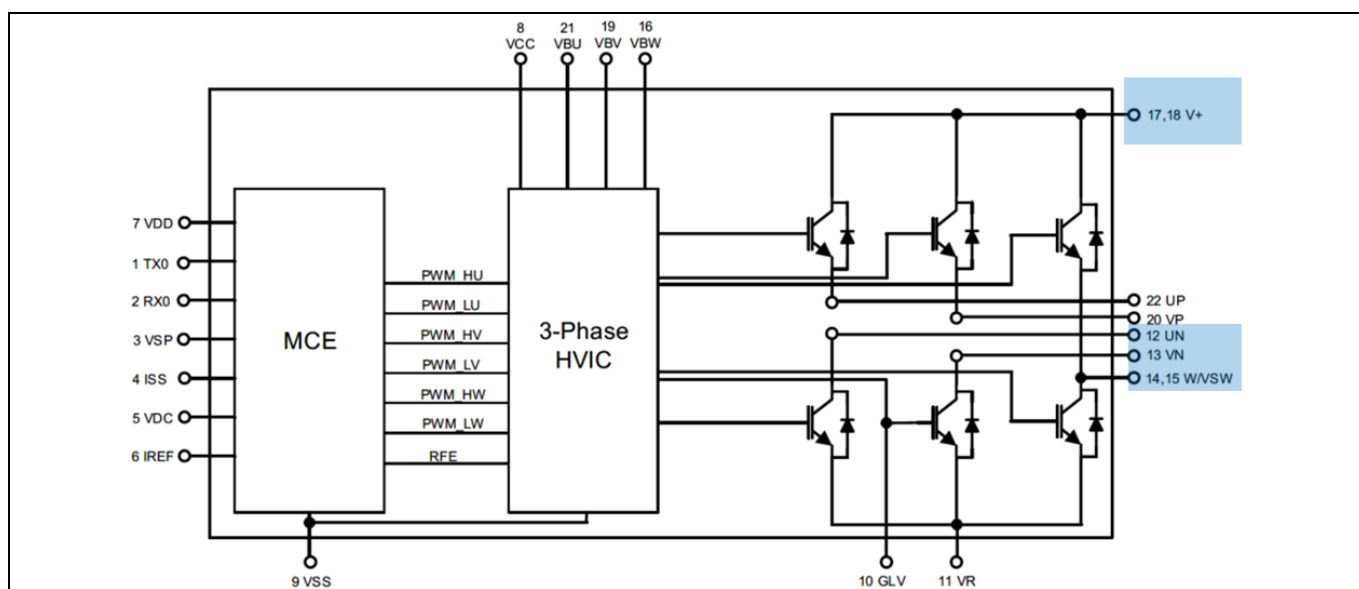
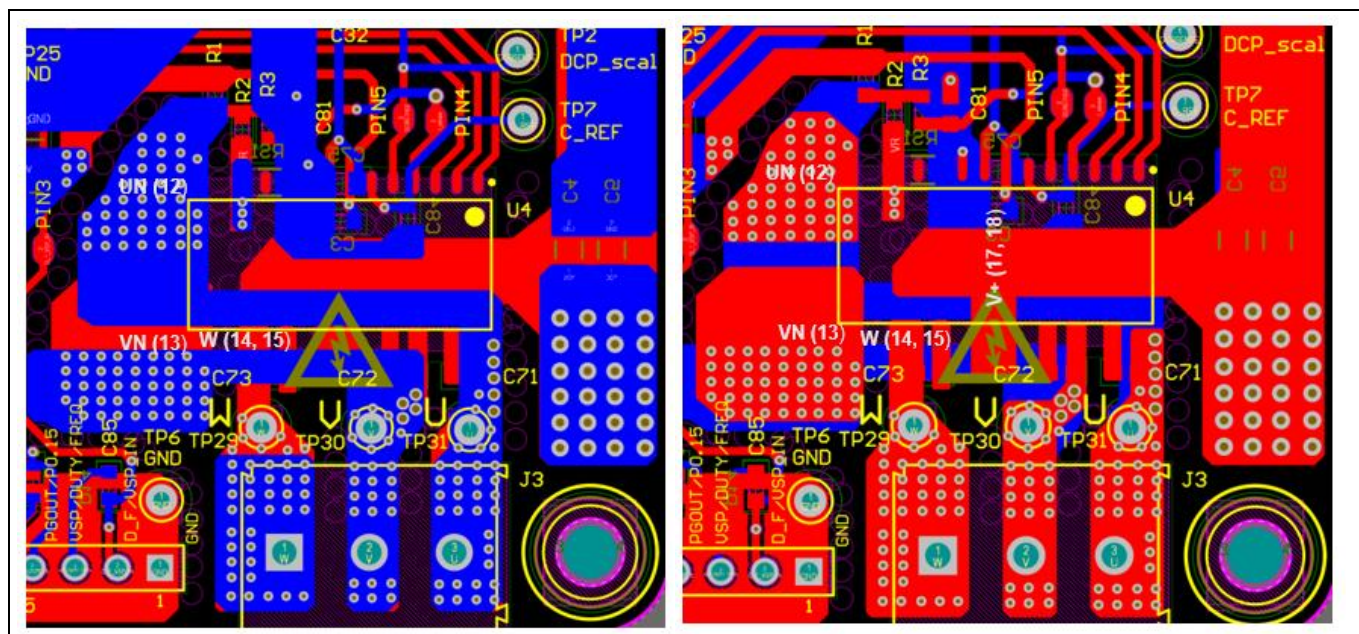

Figure 20 Critical pins for thermal PCB design
Figure 21 Eval board PCB designs for both the top and bottom layers regarding critical pins
IMI111T relies on the leads to transfer thermal dissipation from the power devices to the PCB. There are several critical pins that need attention to achieve improved thermal performance of the module. Figure 20 shows the pins critical for thermal dissipation. These include V+ (17, 18), UN (12), VN (13), and W (14, 15). Copper areas connected to the critical pins have to be optimized as much as possible on both layers to provide more thermal transfer capability. Figure 21 shows the PCB design on both layers with respect to the critical pins.